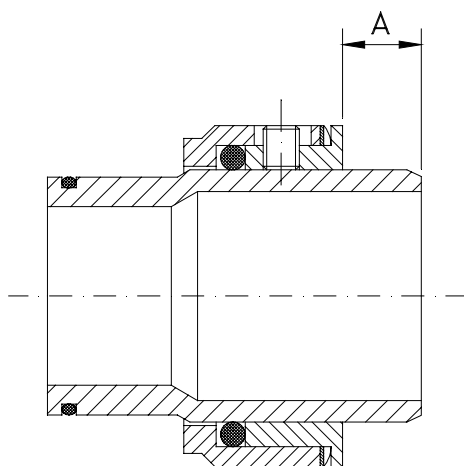

Figure 8.2: assembling the mechanical seal
- One time the pump cover (09) has been disassembled, as indicated in the foregoing section, take out the seal cover (09A) - the stationary part of the mechanical seal (08A) comes out of the pump cover -. Measures have been taken to avoid that this face could rotate simultaneously with the shaft.
- Loosen the screws (50B -support 1-, 51F -support 2 and 3-) that attach the seal cover (09A) to the pump cover (09). Take the stationary part of the mechanical seal (08A) out.
- The rotating part of the seal (08) remains in the shaft sleeve (13).
- Dismantle the shaft sleeve (13). If this sleeve is stuck to the shaft, a screwdriver, for example, can be introduced in between the sleeve and the shaft.
- If the adjustment ring in the rotating part of the mechanical seal is dismantled, it must be readjusted when the seal and sleeve are assembled, and placed at the end of the sleeve and positioned between the shaft's two dragging pivots; see figure 8.2. and table 8.2. Then, the rotating part of the mechanical seal (08) with the O-ring and the spring can also be mounted.